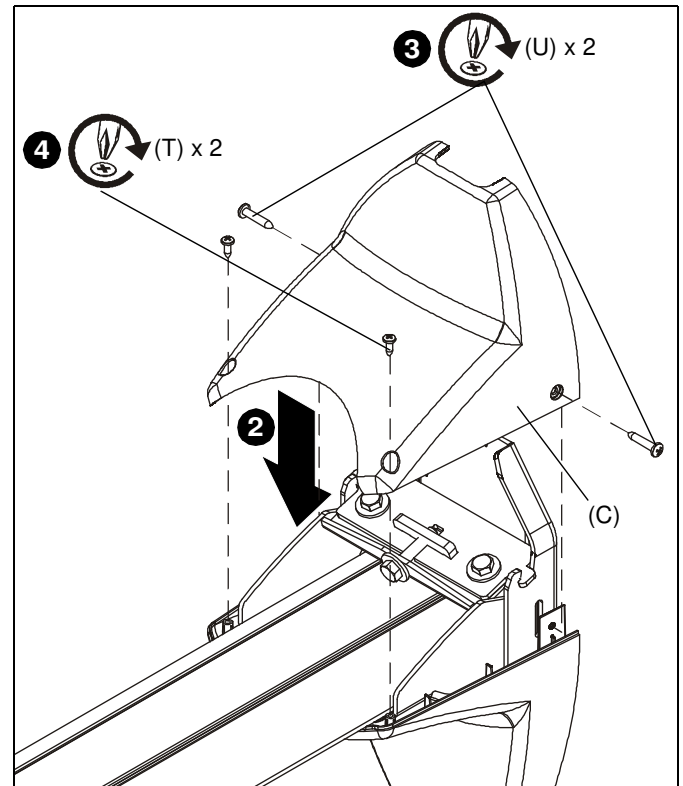

Figure 13
2. Lower top cover (C) onto WM1XXS. (See Figure 13)
3. Install two #10 x 1" Phillips pan head tapping screws (U) through holes on sides of covers. (See Figure 13)
4. Install two #8 x 1/2" Phillips pan head tapping screws (T) into top of top cover (C). (See Figure 13)